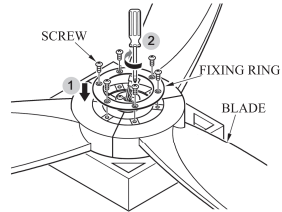

FIG.2
2. Align the hole of fixing ring with blade, and use the screws to assemble the fixing ring with blade. (See Fig.2)